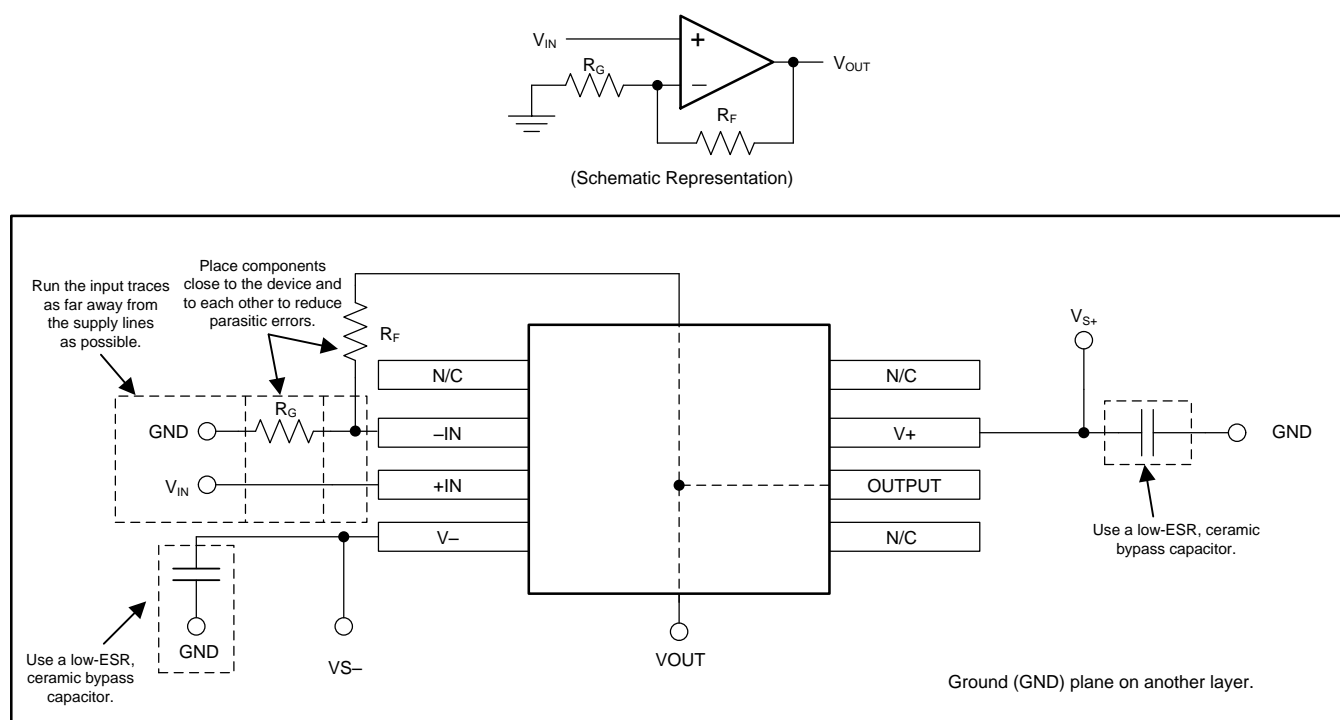

Figure 20. Operational Amplifier Board Layout for Noninverting Configuration
- Place the external components as close to the device as possible. Keep R_F and R_G close to the inverting input in order to minimize parasitic capacitance, as shown in Figure 20.